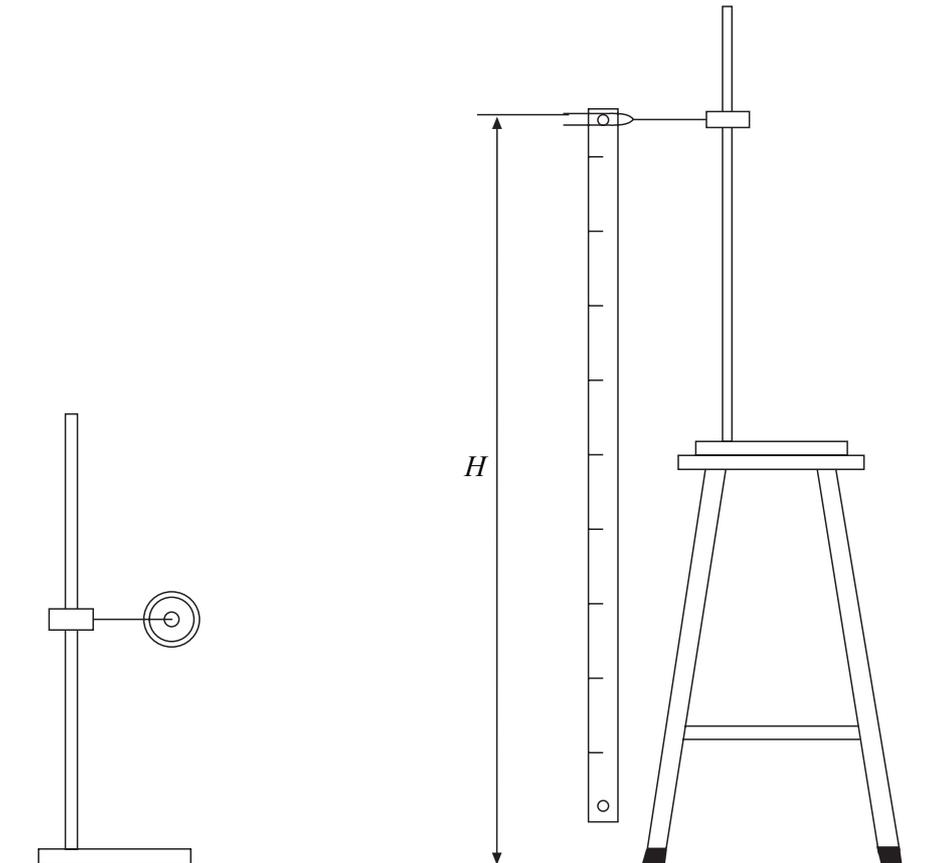

Figure 4
- (a) Using the additional metre ruler, make suitable measurements to determine H , the vertical distance between the top surface of the pivot and the bench, as shown in **Figure 4**.